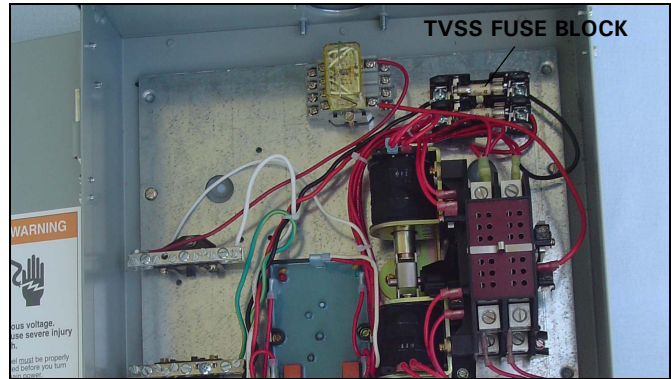

Figure 55. TVSS Fuse Block Mounted in a Standard ATS.
Step 6: Mount the TVSS fuse block to the existing holes on the ATS base plate using the hardware provided. For standard 100 A and 200 A ATSSs, the mounting holes are directly above the contactor (see Figure 55).